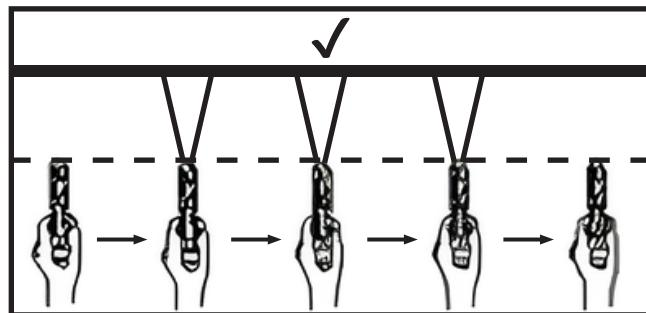

Fig. 1
- Figure 1 shows the correct spraying technique.